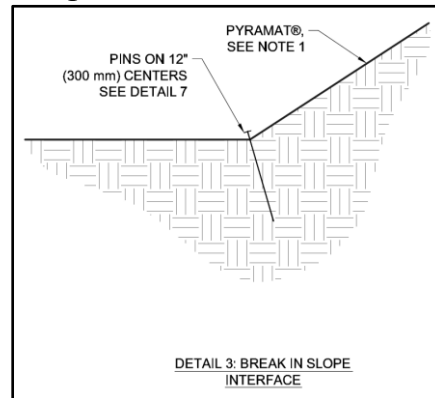

Figure 11: Break in Slope Interface
- At the break in slope interface towards the TOS, it is suggested that pins be installed on 12 in (300 mm) centers (Figure 11).